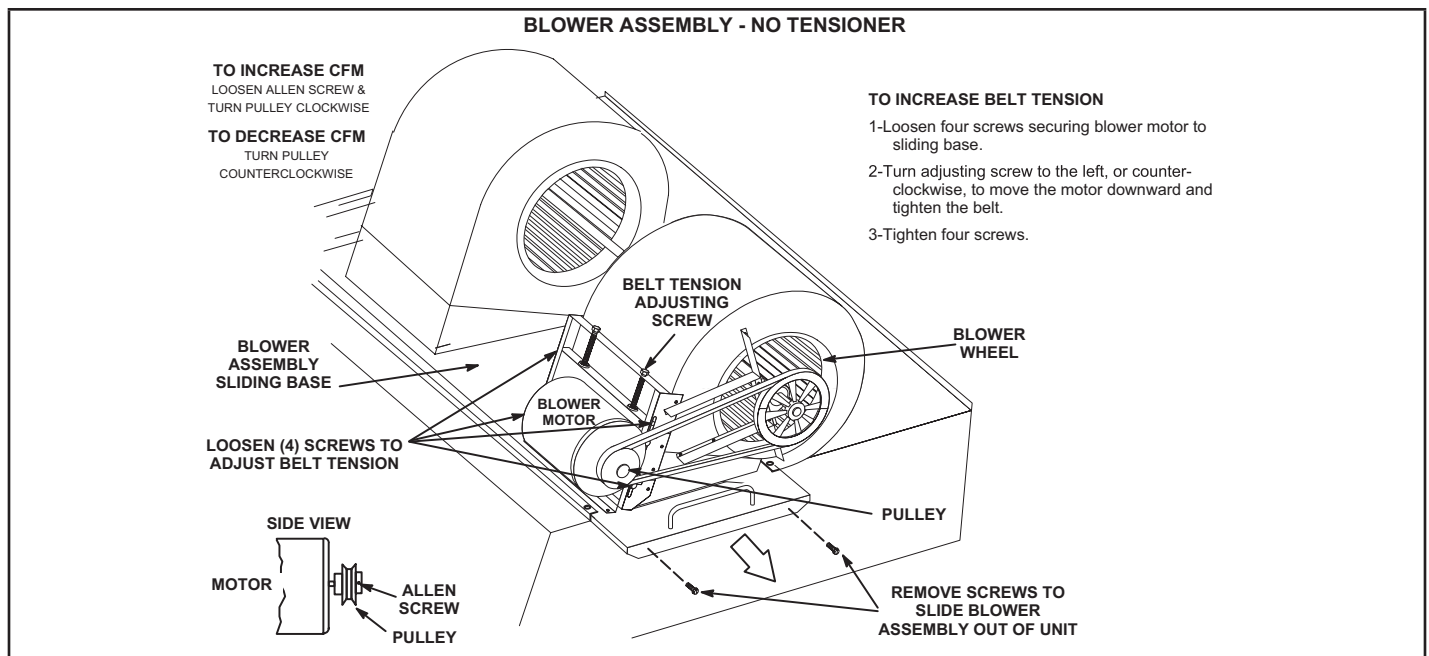

FIGURE 23
The blower compartment is located between the evaporator coil and the compressor / control section on the opposite side of the condenser coil. The blower assembly is accessed by disconnecting the blower motor wiring (and all other plugs) and removing the screws on either side of the sliding base. The base pulls out as shown in FIGURE 23.
- 2 - Remove screws on either side of blower assembly sliding base. See FIGURE 23.
- 4 - The blower RPM can be adjusted at the motor pulley. Loosen Allen screw and turn adjustable pulley clockwise to increase CFM. Turn counterclockwise to decrease CFM. See FIGURE 23. Do not exceed minimum and maximum number of pulley turns as shown in TABLE 21.
- 1 - Loosen four screws securing blower motor to sliding base. See FIGURE 23.